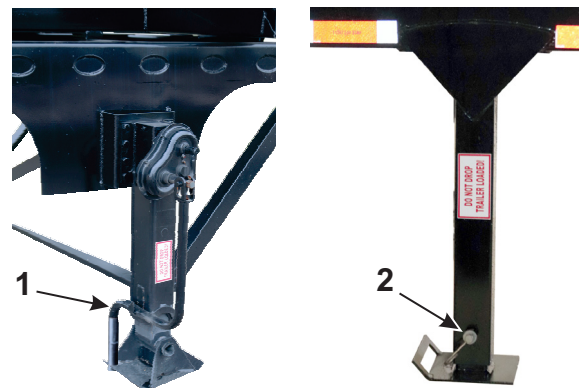

Figure 3-20 – Support Leg
- For the manually raised version, remove the lock pin (2, Figure 3-20), lift the support leg to the transport position, and reinsert and secure the lock pin. Repeat this procedure for the opposite side of the semitrailer.
- The optional crank handle version is raised by rotating the crank handle (1, Figure 3-20) until the support legs are in the transport position. When the support legs are fully raised, secure the crank handle.